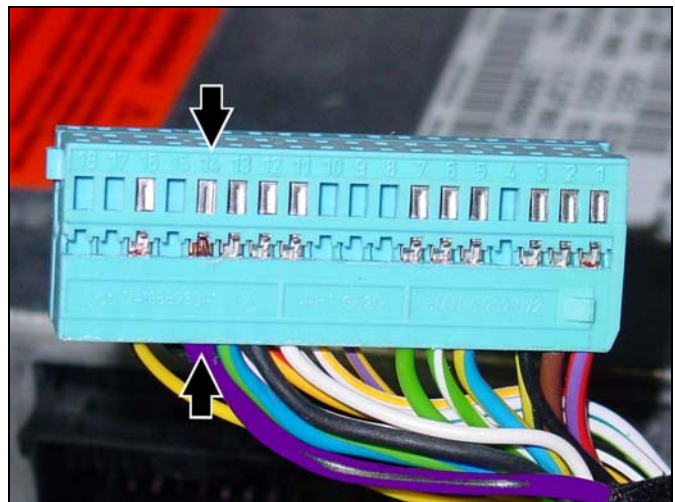

Figure 36
4. If occupied (Arrows, Figure 36), verify the violet-color wire coming from pin slot #14 goes to:
7. Insert the pin into slot #14 of the pin housing of the power supply connector for the Tele Aid control module (Arrows, Figure 36).